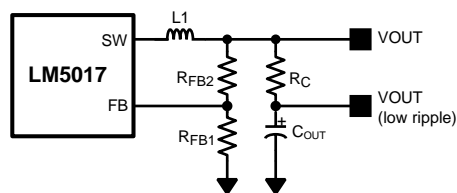

Figure 10. Low Ripple Output Configuration
This regulator regulates the output voltage based on ripple voltage at the feedback input, requiring a minimum amount of ESR for the output capacitor (C_{OUT}). A minimum of 25 mV of ripple voltage at the feedback pin (FB) is required for the LM5017. In cases where the capacitor ESR is too small, additional series resistance may be required (R_C in Figure 10).
For applications where lower output voltage ripple is required the output can be taken directly from a low ESR output capacitor, as shown in Figure 10. However, R_C slightly degrades the load regulation.